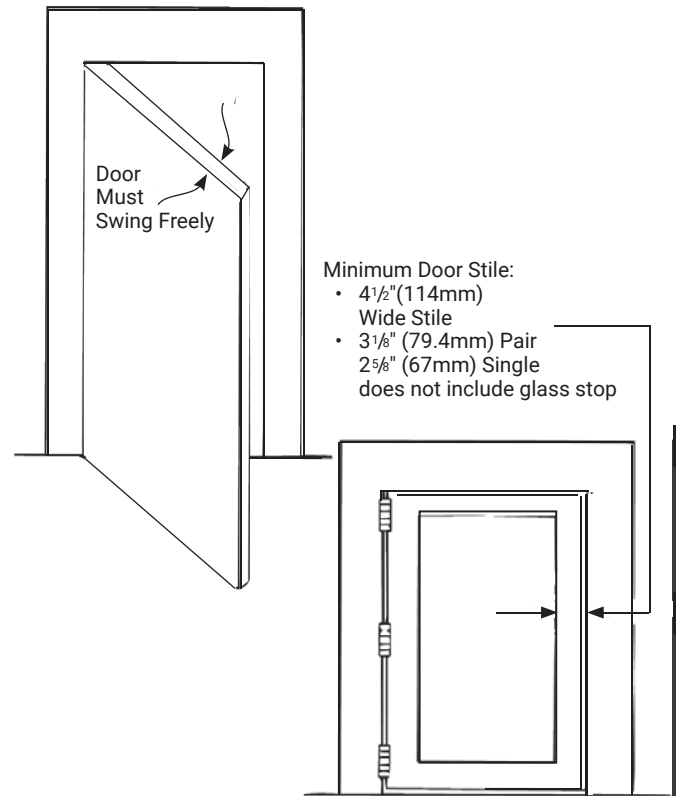

Figure 1: Installation Check
1. Make sure the door is plumb and level. Check that the hinges are secure and not missing hardware (Figure 1).
2. If surface of the door is free of raised projections, device may be installed without a shim kit. One (1) shim kit is needed for each 1/4" of projection:
4. Determine if door is reinforced. Doors and frame thickness must have three (3) full screw threads to be considered reinforced.